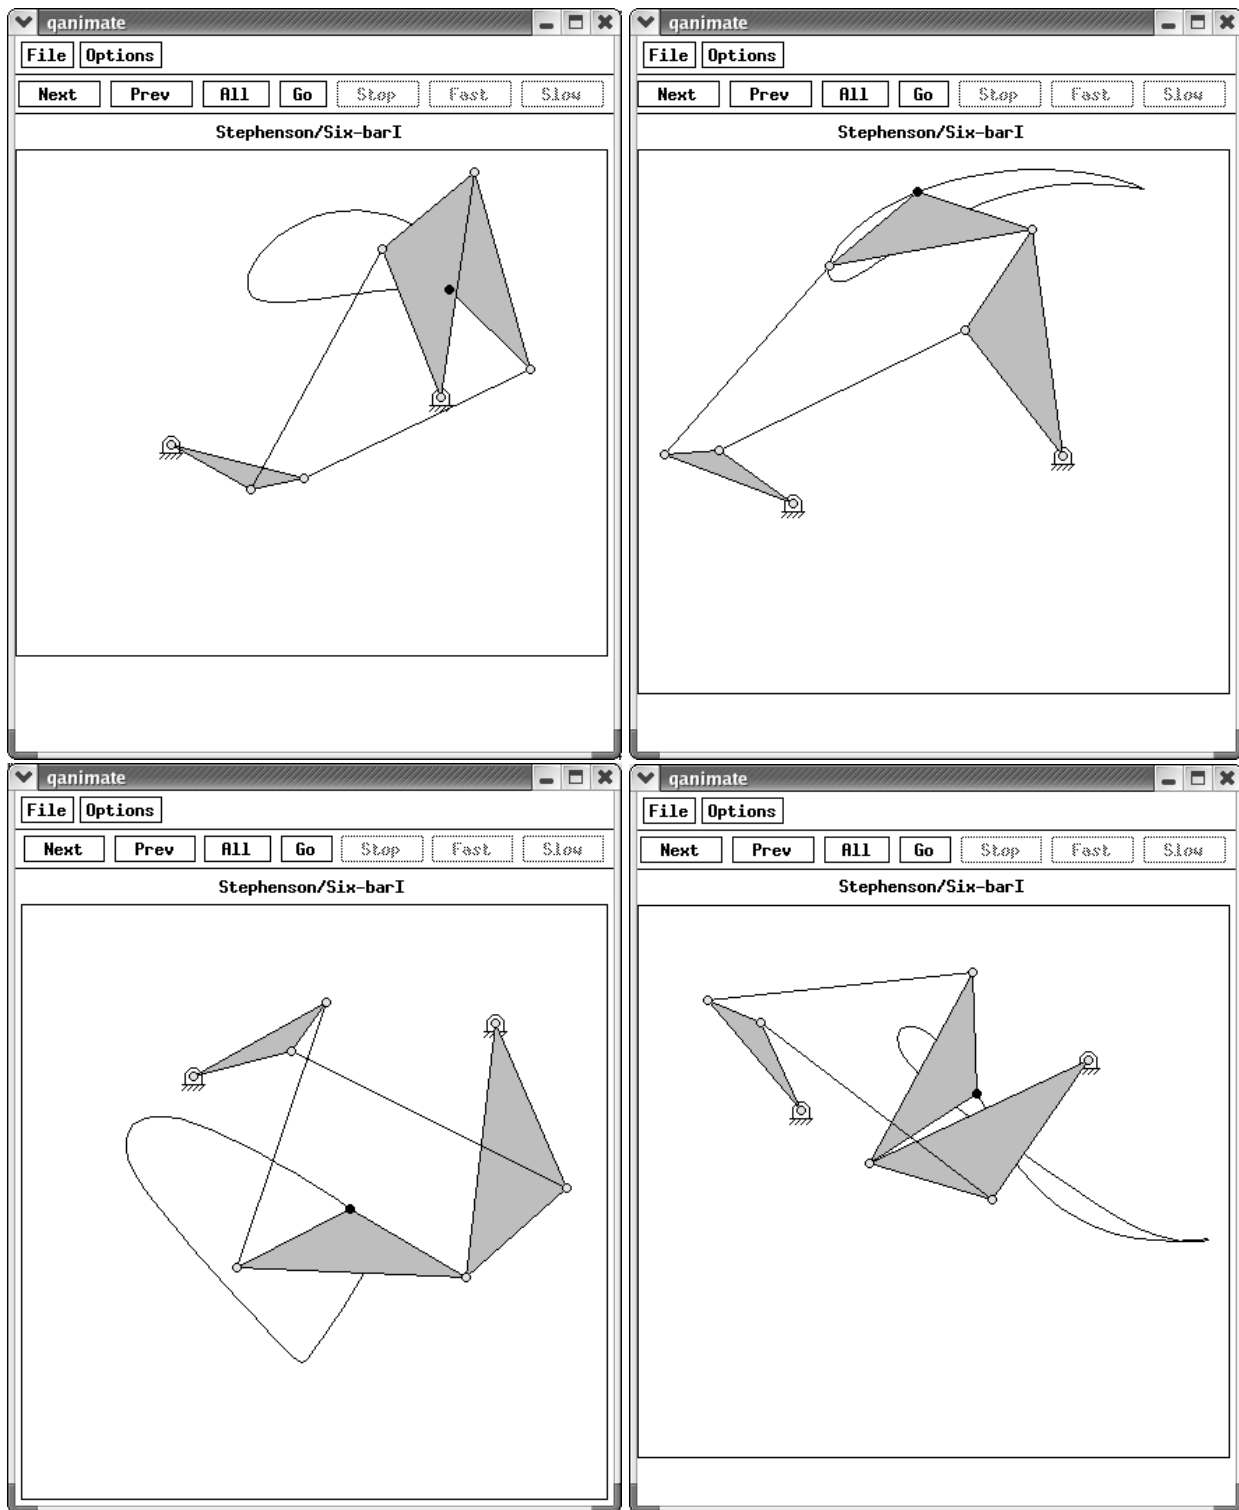

Figure 5.22: Output of Program 39.
can be used to simulate the motion of a Stephenson (I) sixbar linkage. For the Stephenson (I) sixbar mechanism defined in earlier problem statements, with the coupler link being link 6, Program 39 can be used to simulate its motion. Snapshots of animation for the four possible geometric inversions are shown in Figure 5.22. Note that if the fourbar portion of the sixbar linkage was a Grashof Rocker-Rocker, the possible number of geometric inversions would be 8, not 4.